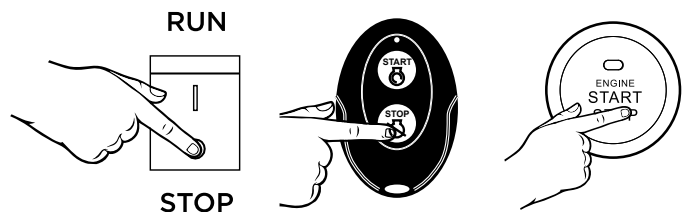

Figure 13 - Stopping the generator
3. Choose from options below to stop the generator (see Figure 13):